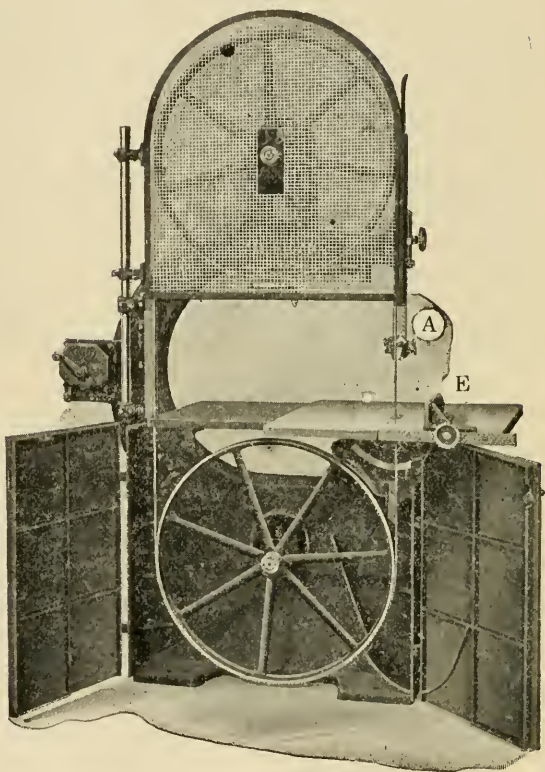
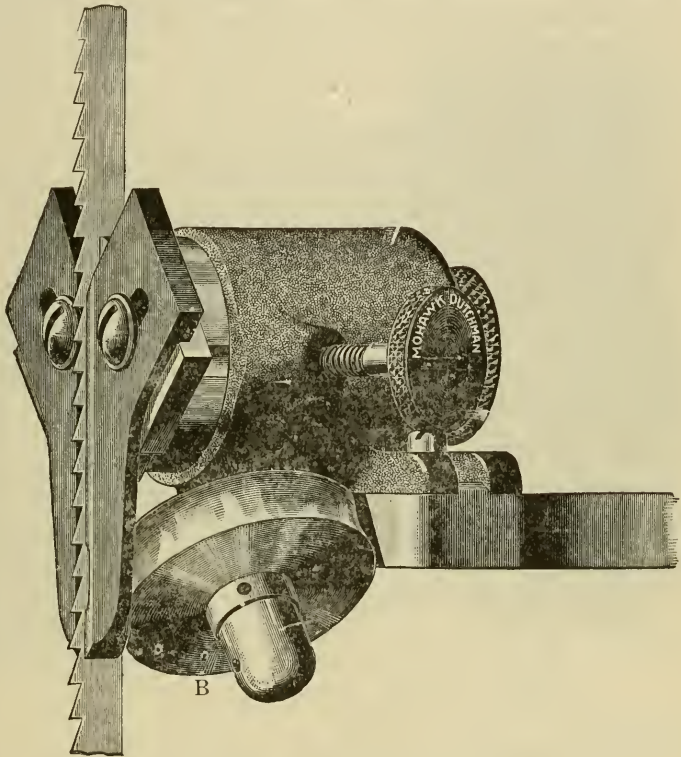

FIG. 36 — BAND SAWS "A" GUIDE POST "E" RIPPING FENCE
FIG. 37—MOHAWK DUTCHMAN SAW GUIDE.
36. General -- Band saws are made in right and left hand types, the right hand being more universal. Figs. 36 and 39 show right hand machines which are properly guarded. Instead of the wire door as the top some machines have a wooden frame of panel construction. The bottom guard in this case consists of two cast iron doors. Sometimes the lower guard is made of panel doors, or, wire frames similar to the guard on the top of the wheel. The guide post, shown at "A" in Fig. 36 is a very essential part of the machine. The Mohawk Dutchman saw guide which is attached to this guide post is shown on a larger scale in Fig. 37. The guides on either sides of the blades should be set quite close to the saw. The wheel, "B", on which the back of the saw runs,
There are times when the band saw is used in ripping to width. For work of this kind, a fence such as is shown at "E" in Fig. 36 is necessary. Ripping to width on a band saw is not accurate, however, like ripping on the saw table.
38. Operation-- The guide "A" in Fig. 36 should be kept as low as possible at all times, when operating the band saw. When sawing, keep in front of the saw and do not step around in line with the direction of travel of the saw wheel. Should the saw break, there is no danger if the machine is properly guarded, and you remain at
Another reason for breaking saws is guides not properly set or constructed. The guide shown in Fig. 37, the Mohawk Dutchman Type, eliminates to a great extent; the possibility of cracking and crystallization, and consequently lengthens the life of the saw. The wheel forming the back guide has a concave surface on its periphery. In addition to this, the wheel is set at an angle so that the back of the saw passes diagonally across the point of periphery of the wheel which causes it to revolve. With the point of bearing constantly changing, it prevents the saw grooving the surface of the wheel.